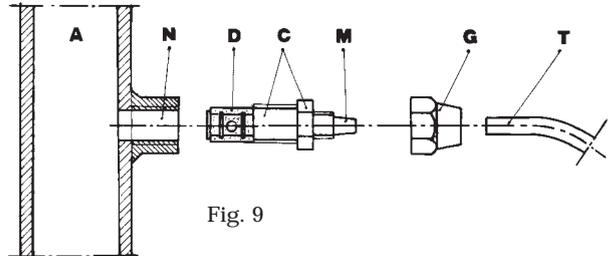

Fig. 9
- g. - Select the most appropriate injection point on a pipe of the plant to be treated and there fit a 3/8" female gas thread connector (similar to BSPm). This connector is not supplied with the pump. Screw the injection valve to the gas connector, inserting a gasket as shown in Fig. 9. Then connect the discharge hose to the conical connector on the injection valve and fix it with the supplied tube nut G. The injection valve also acts as no return valve by means of a cylinder sleeve (elastomer, standard supplied in Viton).
#### DIAGRAM Fig. 9